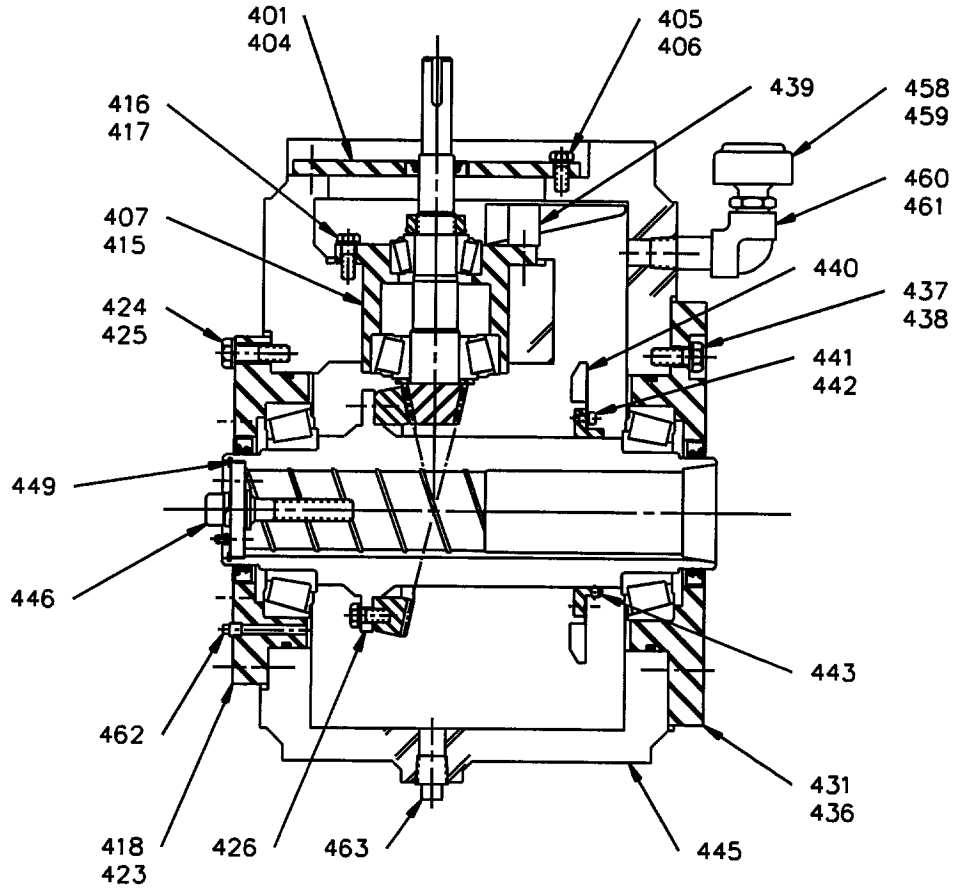

Figure 19: HS Gear Drive
1. Remove snap ring [449] and retract bolt assembly [446] (*Figure 19, page 58*).